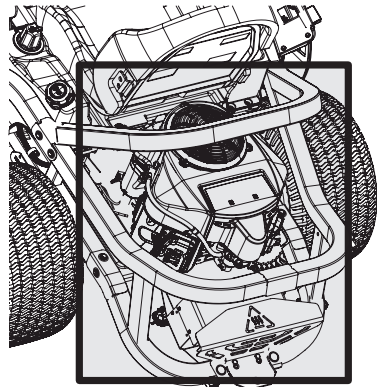

Fig. 30
- Keep both sides of transmission cooling slots, exhaust manifold, around fuses, all wiring and harnesses, muffler pipe, muffler shield, engine intake screens and cooling fins, etc. clear of grass clippings and leaves (Fig. 30).